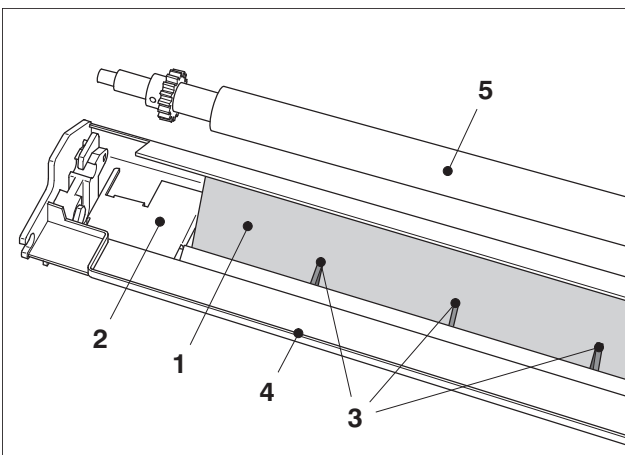
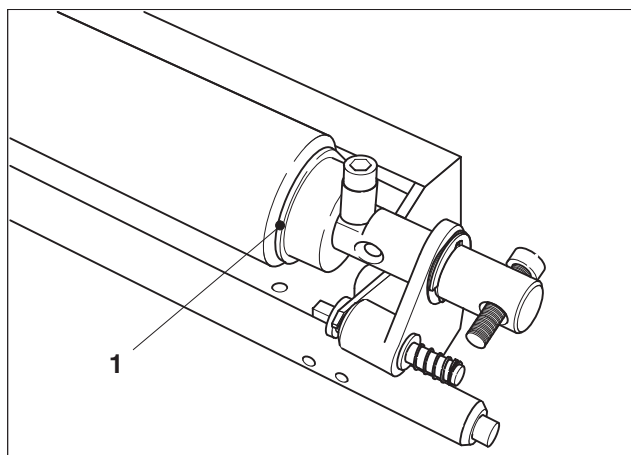

Fig. 29 Washup felt with removed metering roller
Fig. 30 Blanket washup device, gasket D.S.
6. Remove the metering roller (Fig. 29/5).
7. Remove the support rail (Fig. 29/2) from the washing fluid trough.
8. Remove the washup felt (Fig. 29/1) from the support rail.
9. Carefully clean the washing fluid trough (Fig. 29/4) and the support rail using a cloth soaked in washing fluid.
10. Insert the new washup felt (Fig. 29/1) behind the fins (Fig. 29/3) into the support rail (Fig. 29/2).
11. Place the support rail (Fig. 29/2) inside the washing fluid trough (Fig. 29/4).
12. Insert the metering roller (Fig. 29/5) and assemble the blanket washup device. Make sure that the gaskets (Fig. 30/1) on the washup roller are properly aligned and the radius touches the metering roller.